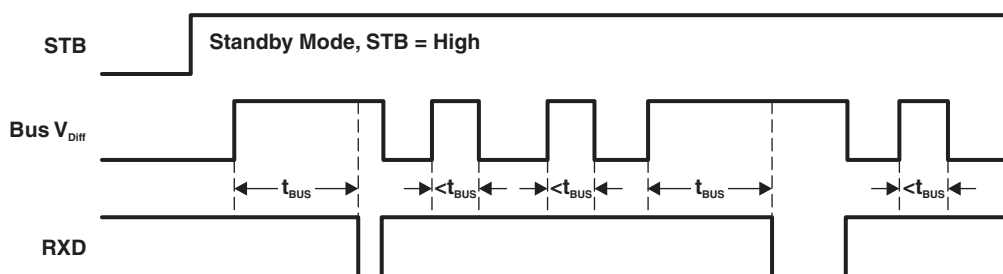
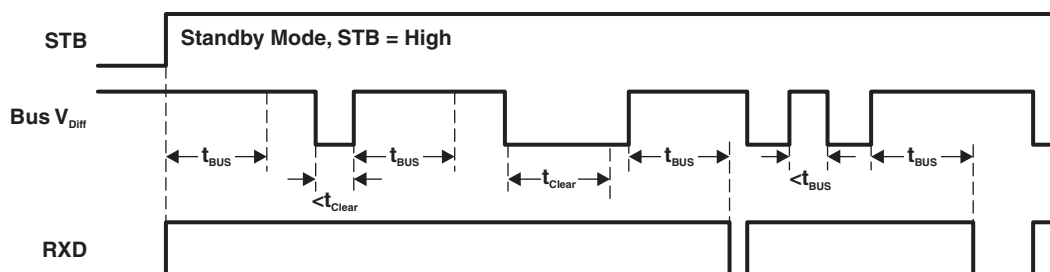

Figure 3. SN65HVDA541 RXD Wake Up Request With No Bus Fault Condition
Figure 4. SN65HVDA541 RXD Wake Up Request Lock Out When Bus Dominant Fault Condition
(1) Mirrors bus state: LOW if CAN bus is dominant, HIGH if CAN bus is recessive.
(2) See Figure 3 and Figure 4 for operation of the low power wake up receiver and bus monitor for RXD Wake Up Request behavior and Table 3 for the wake up receiver threshold levels.
- (1) H = high level, L = low level, X = irrelevant, ? = indeterminate.
- (2) While STB is high (standby mode) the RXD output of the SN65HVDA540 is always high (recessive) because it has no wake-up receiver.
- (3) While STB is high (standby mode) the RXD output of the SN65HVDA541 functions according to the levels above and the wake-up conditions shown in Figure 3 and Figure 4.
(3) When V_{IO} is undervoltage, the device is forced into standby mode with respect to the CAN bus since there is not a valid digital reference to determine the digital I/O states or power the wake-up receiver.